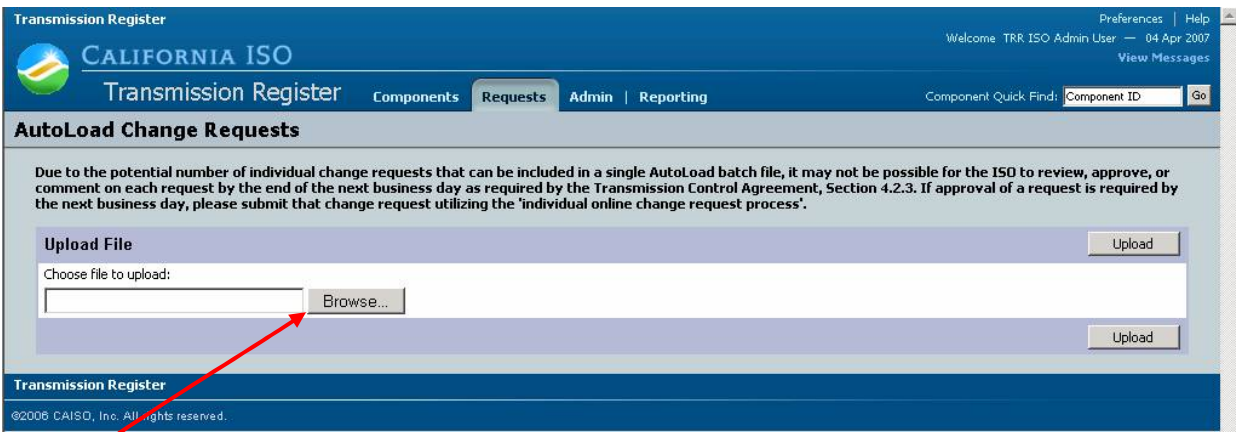

Figure 9. AutoLoad Change Requests
- **Click** on AutoLoad Change Requests and the screen in Figure 9 appears.